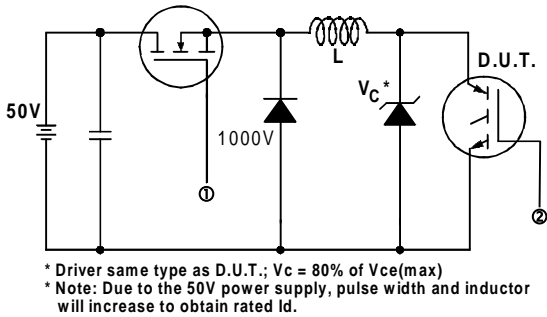

Fig. 13a - Clamped Inductive Load Test Circuit
- ② $V_{CC} = 80\%(V_{CES}), V_{GE} = 20V, L = 10\mu\text{H}, R_G = 23\Omega,$ (See fig. 13a)
- ③ Repetitive rating; pulse width limited by maximum junction temperature.
- ④ Pulse width $\leq 80\mu\text{s}$; duty factor $\leq 0.1\%$.
- ⑤ Pulse width $5.0\mu\text{s}$, single shot.